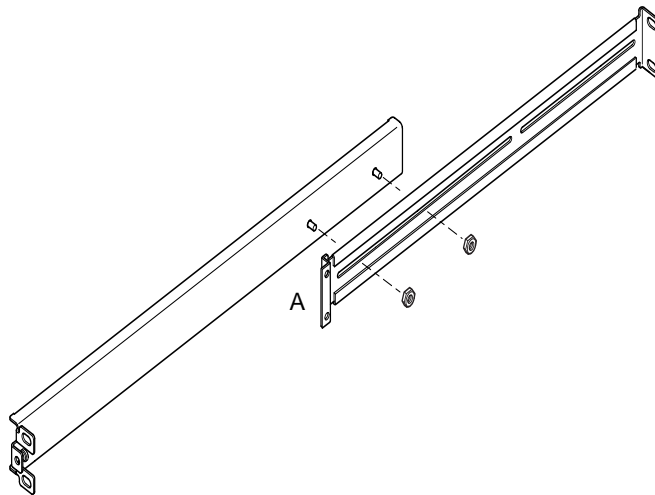

FIGURE 5-3 Positioning the Slide Mounts for a Standard 19-Inch Wide Rack
- For a standard 19-inch wide rack, the double-angled ear (A) must be to the front (see FIGURE 5-3).